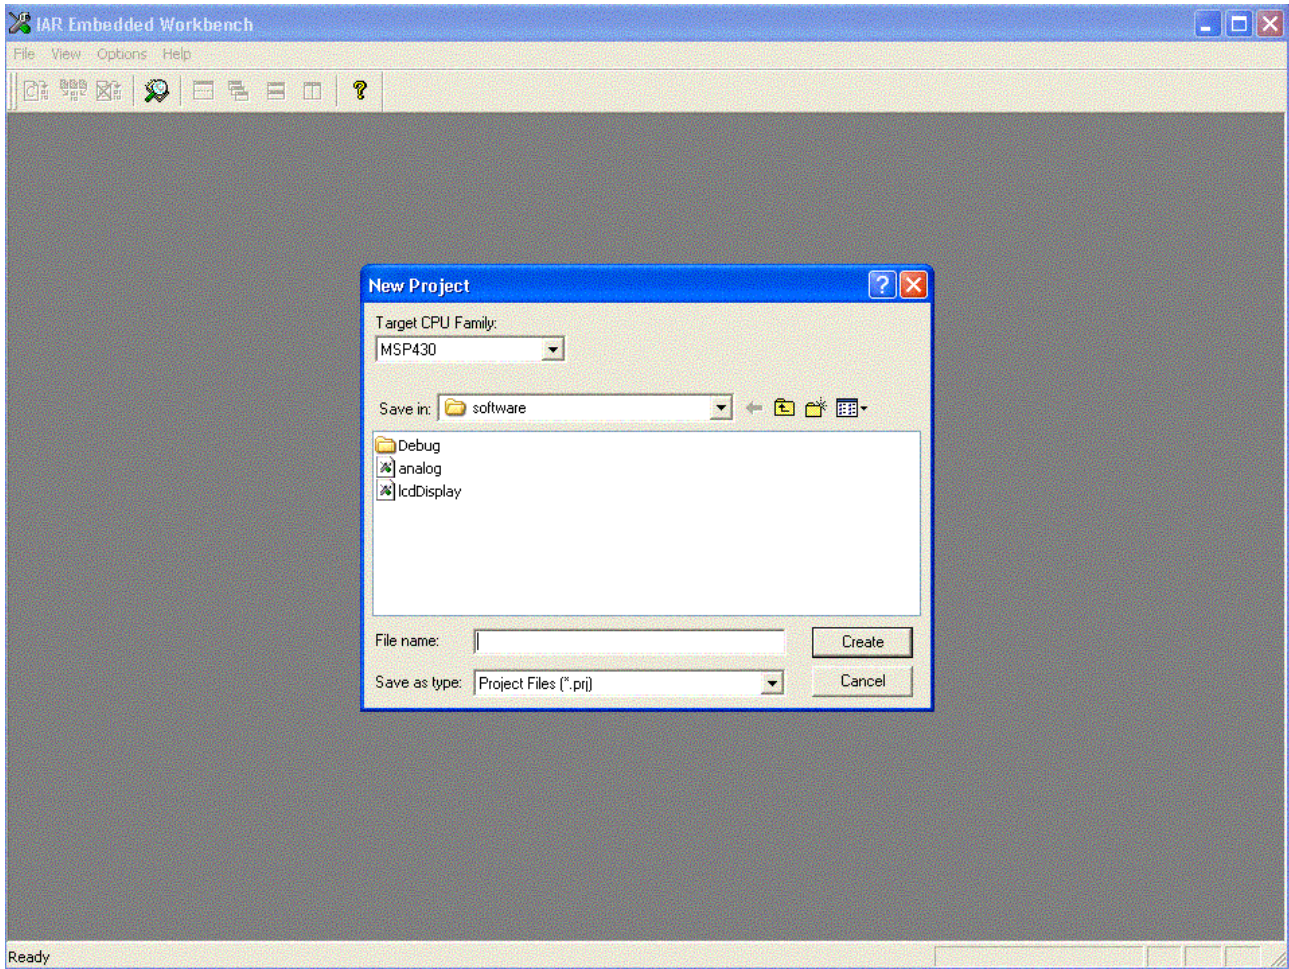

Figure 10: Showing procedure in building software, Step 4.
Step 4: Now click on **Project / New** and you will see the screen shown in Figure 10.